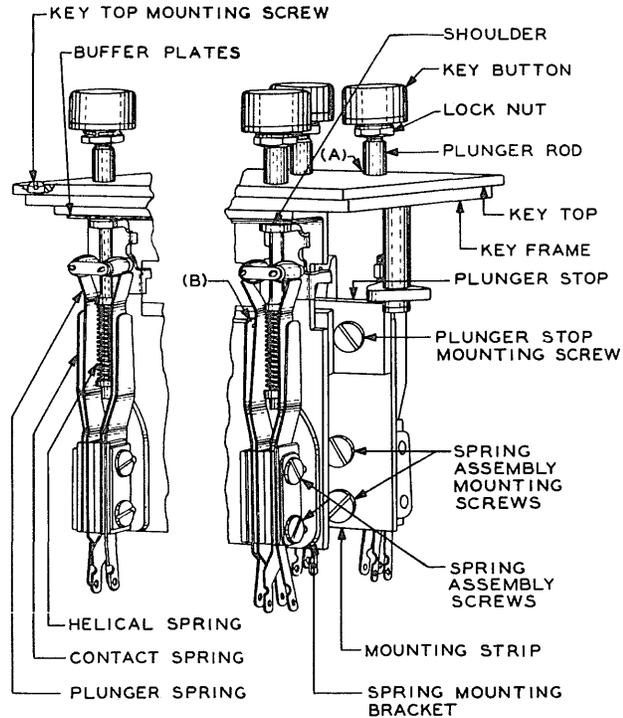

Fig. 2—545-Type Key
2.02 *Plunger Movement:* Fig. 2(A)—The plungers shall move freely in their bearings and shall not be sluggish in restoring to normal when released unrestrained from the operated position.
- (a) **Fig. 2(B)**—On units equipped with make contacts only, the separation between the normally open contacts shall be